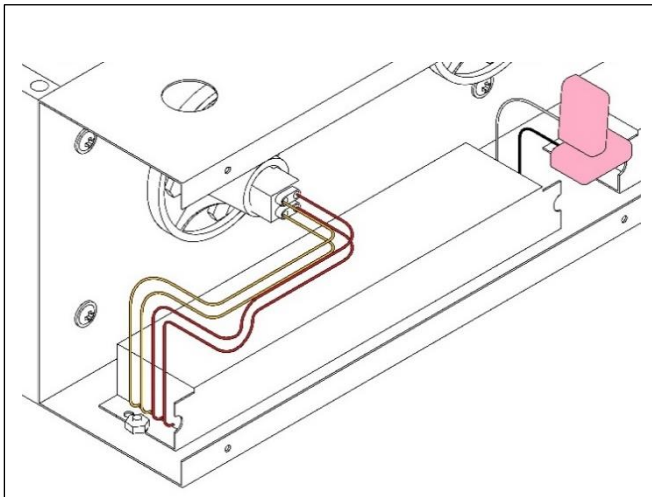

Figure 13
9.) Replace lamps by alternating a quarter turn clockwise and a quarter turn counterclockwise as it is pushed in. This will prevent the lamp from becoming bound up in the catalyst media. See Figure 13.
5.) Disconnect lamp plug and power attached to defective ballast. Take note of which terminals power the defective ballast so the new one can be wired correctly. See Figures 13 and 14.
6.) Disconnect wire providing power to the ballast. See Figures 13 and 14.
7.) Use an 11/32" socket wrench to remove the (2) nuts holding the ballast into place. See Figures 13 and 14.
9.) Reinsert and tighten the (2) nuts that hold the ballast in place with an 11/32" socket wrench. See Figures 13 and 14.
10.) Reconnect lamp plugs and reconnect wiring clip powering ballast. See Figures 13 and 14.